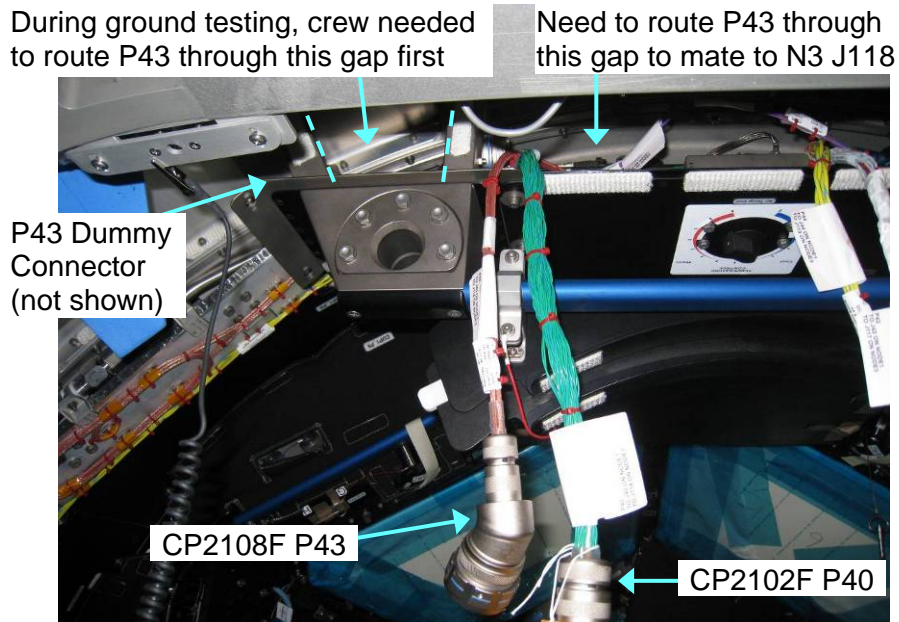

Figure 17.- CP2108F P43 Routing During Ground Testing.
1. During ground testing, crew found they had to route CP2108F P43 behind/through Cupola structure to mate to N3 J118. Refer to Figure 17.